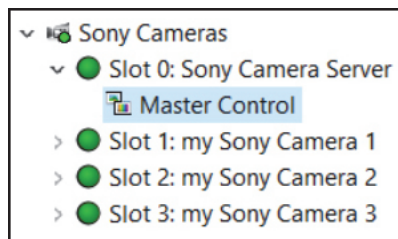

Figure 3.2 - The Master Control Node in the DashBoard Tree
- In the DashBoard component tree, expand the node for the cameras, expand the **Sony Camera Server** node (**Slot 0**), press and hold the **Master Control** node, and then tap **Share Device** (Figure 3.2).